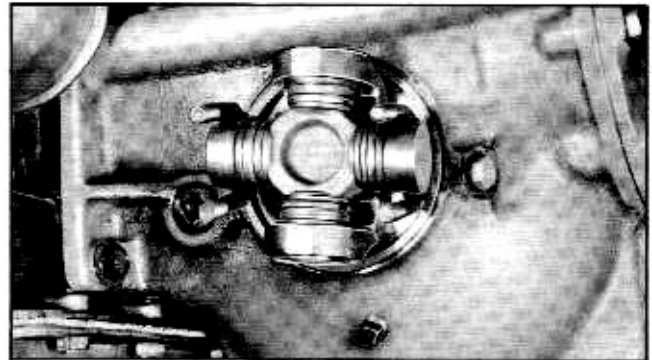

Fig. 4-6 Separating Flange From U-Bolts
5. Pull axle shaft outward sufficiently to separate flange from U-Bolts (Fig. 4-6).